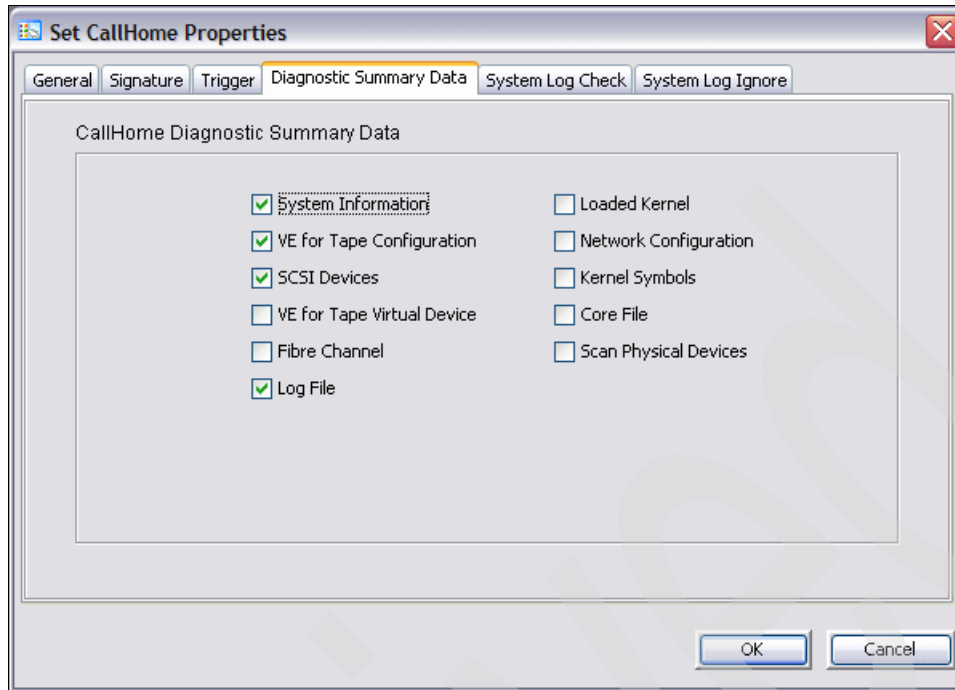

Figure 5-75 Set CallHome Properties: Diagnostic Summary Data
4. From the Diagnostic Summary Data tab, select the components that will be included in the diagnostic summary file. Each diagnostic summary file contains technical information about your server, such as server messages and a snapshot of your server’s current configuration and environment. It is useful for your technical support team to help solve system problems. See Figure 5-75.